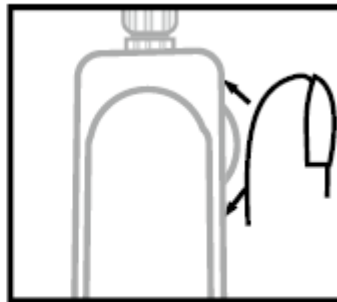

Figure.2
2. To activate the handle bar with the insertion tube, turn the LED adjustment wheel clockwise until you hear a “click” followed by illumination of the green light. (Figure 2)